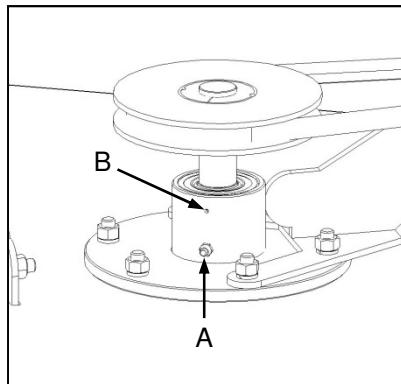

Fig. 9 (Rotagang®)
- ✓** Spindle bearing housings are provided with grease nipples (Fig. 9-A). Fill with grease until grease just appears to exit the vent hole (Fig. 9-B).
- ✓** Spilkoeëllaeromhulsels het ghriesnippels (Fig. 9-A). Vul met ghries totdat die ghries net-net uit die luggat begin kom (Fig. 9-B).